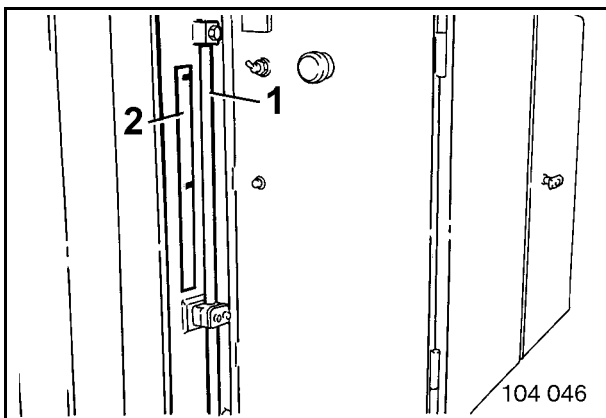

Fig. 3-94:
- Fill in hydraulic oil through the opening until the oil level lies between the $\frac{1}{2}$ and the $\frac{3}{4}$ marks of the inspection glass (1, Fig. 3-94:) (oil grade see "Refilling quantities - Oil").
- Unscrew cap of express coupling (10).
- The use of the hose line is described under "hose line for oil and cooling-liquid changes". Connect filling hose express coupling of the service vehicle. Fill in hydraulic oil until the oil level lies between the $\frac{1}{2}$ and the $\frac{3}{4}$ marks of the inspection glass (1, Fig. 3-94:) (oil grade see "Refilling quantities - Oil").